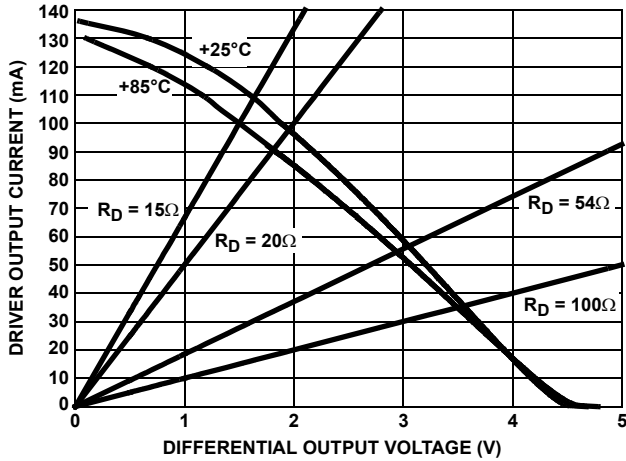

FIGURE 8. DRIVER OUTPUT CURRENT vs DIFFERENTIAL OUTPUT VOLTAGE
- See Figure 8 for more information, and for performance over-temperature.
Another advantage of the large V_{OD} is the ability to drive more than two bus terminations, which allows for utilizing the ISL3158AE in "star" and other multi-terminated, "non-standard" network topologies. Figure 8, details the transmitter's V_{OD} vs I_{OUT} characteristic, and includes load lines for six (20 Ω) and eight (15 Ω) 120 Ω terminations. The figure shows that the driver typically delivers 1.65/1.5V into 6/8 terminations, even at the worst case temperature of +85°C. The RS-485 standard requires a minimum 1.5V V_{OD} into two terminations, but the ISL3158AE delivers RS-485 voltage levels with 3x to 4x the number of terminations.